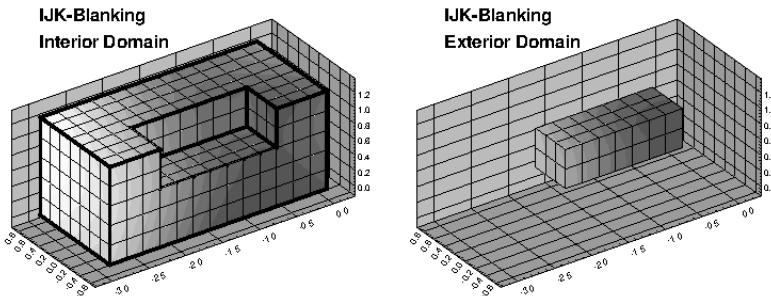

Figure 19-10. IJK Blanking with Interior domain (left) and Exterior domain (right).
- **Interior** - Cells within the specified index ranges are blanked. Those outside are plotted. This creates a "hole" in the zone. The left side of Figure 19-10 shows an ordered zone with IJK Blanking with Interior domain.
- **Exterior** - Cells outside the specified index ranges are blanked. Those inside are plotted. Exterior plots a sub-zone of the zone. The right side of Figure 19-10 shows an ordered zone with IJK Blanking with Exterior domain.